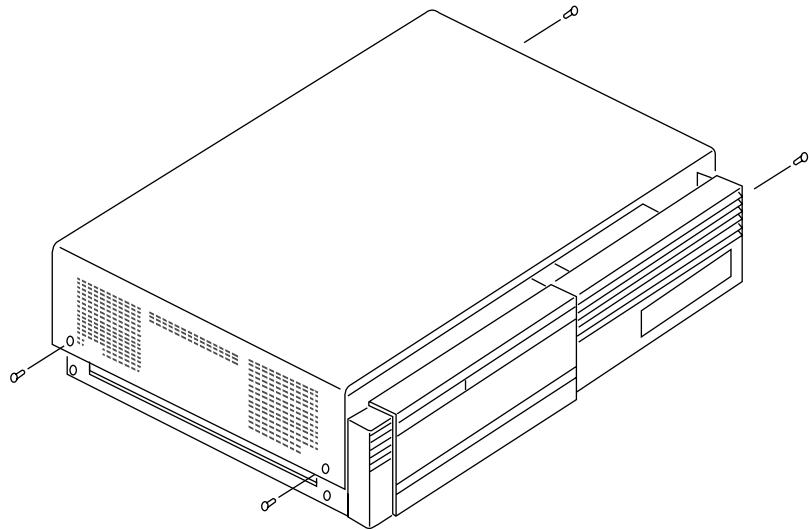

Figure 5-3 Removing the Server Cover
- 3 Remove the black screws shown in Figure 5-3 with a #1 Phillips screwdriver.